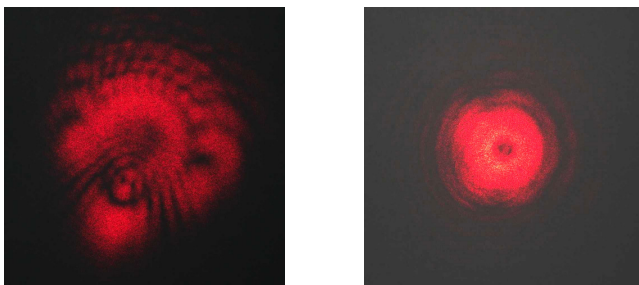

Fig. 4: Picture of the laser beam behind the capillary in cases of a misaligned laser tube (left) and a well-aligned laser tube (right).
- As long as the laser beam is not going through the centre of the capillary, a noticeable deformation and deflection of the laser beam is produced due to diffraction at the capillary (Figure 4, left).
- By gradually readjusting the laser support's screws, align the laser tube (d) so that the laser beam goes centred through the alignment iris diaphragm. Next, carefully optimise the adjustment so that the laser beam profile is symmetrical on the screen (Figure 4, right) and the laser beam also passes centred through the alignment iris diaphragm (b).